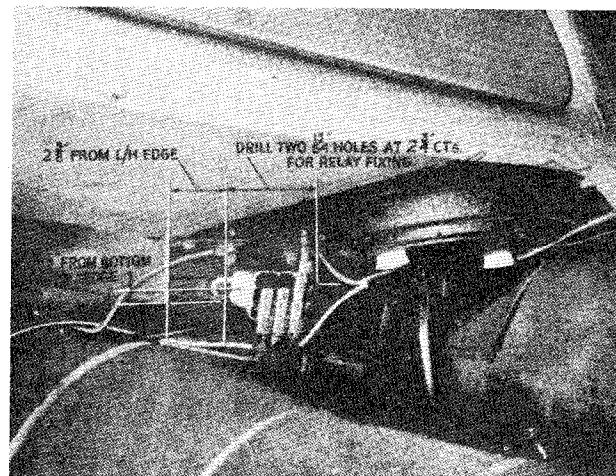

Fig. 38 Instructions for fitting the Relay Switch.
**The Relay.** Reference to Fig. 38 shows the fitted position of the relay.